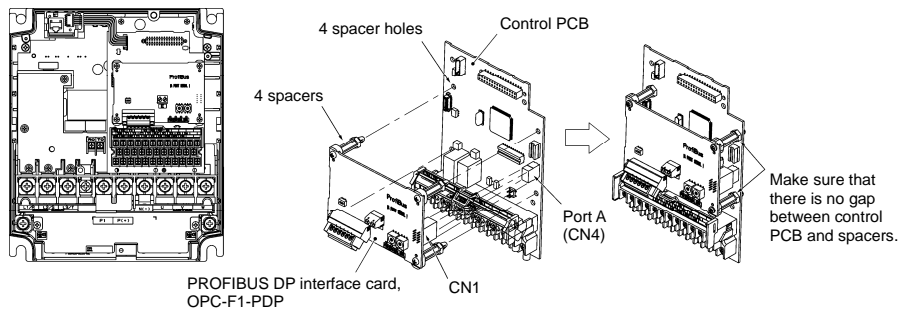

Figure 7 FRN010F1S-2U to
- (1) Remove the covers from the inverter to expose the control printed circuit (Figure 7).